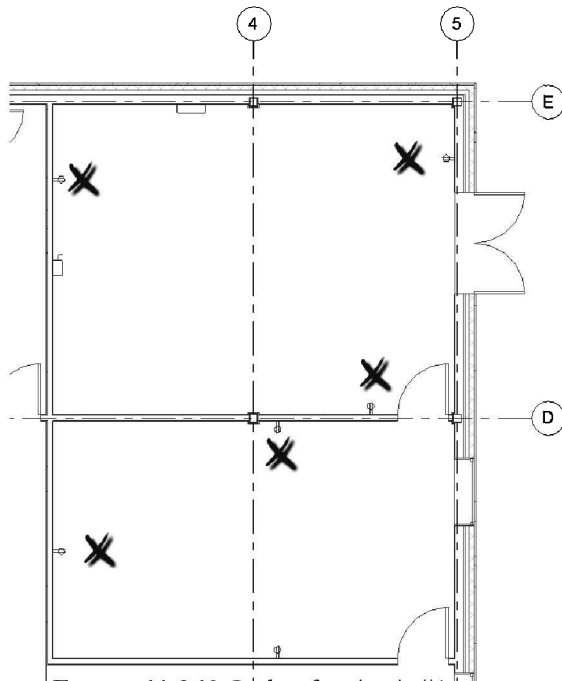

FIGURE 14-3.10 Outlets for circuit #1
28. Select the remaining four outlets shown in Figure 14-3.10.